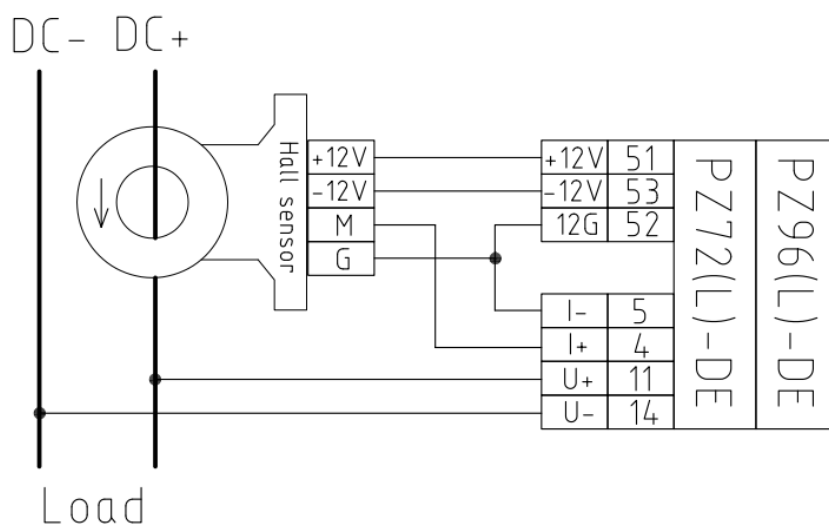

Figure 6 Typical wiring diagram of using Hall current sensor
- 3) Sampling current with Hall current sensor, connection with Hall current sensor (selection function of instrument : 12V power supply output power supply) and instrument as shown in figure 6: